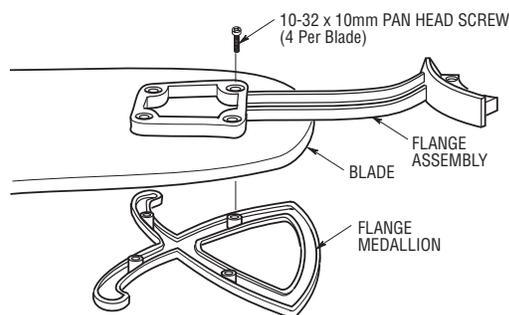

Figure 1
2. Secure the flange assembly and flange medallion to the blade assembly using the four #10-32 x 10mm pan head screws. Repeat for the four remaining blades. (Figure 1)